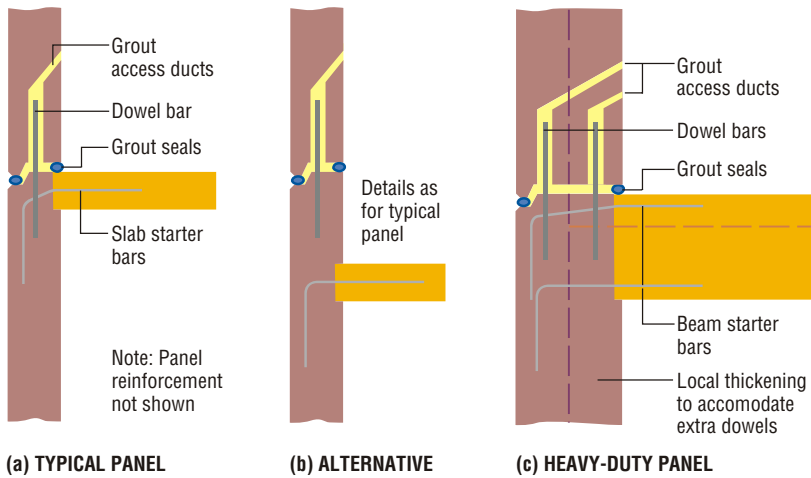

Figure 2 Typical loadbearing wall connections
- Load transfer is through grout or dry-packed mortar. Figure 2 shows typical examples: (a) with the horizontal joint at slab level; (b) similar but with the joint clear of the floor where it is more accessible and visible; (c) a thickened wall panel where a double row of long dowels provides moment resistance as well as bearing support.